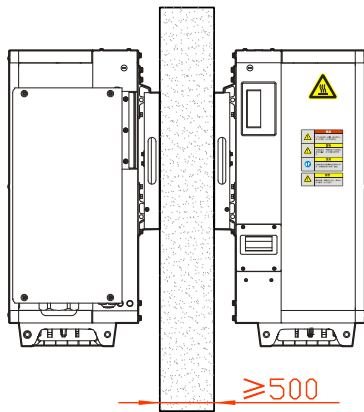

Figure3-6 Back-to-back installation space requirements (unit: mm)
- When the inverters are installed back to back, a certain distance must be reserved between the two inverters, as shown in Figure3-6.